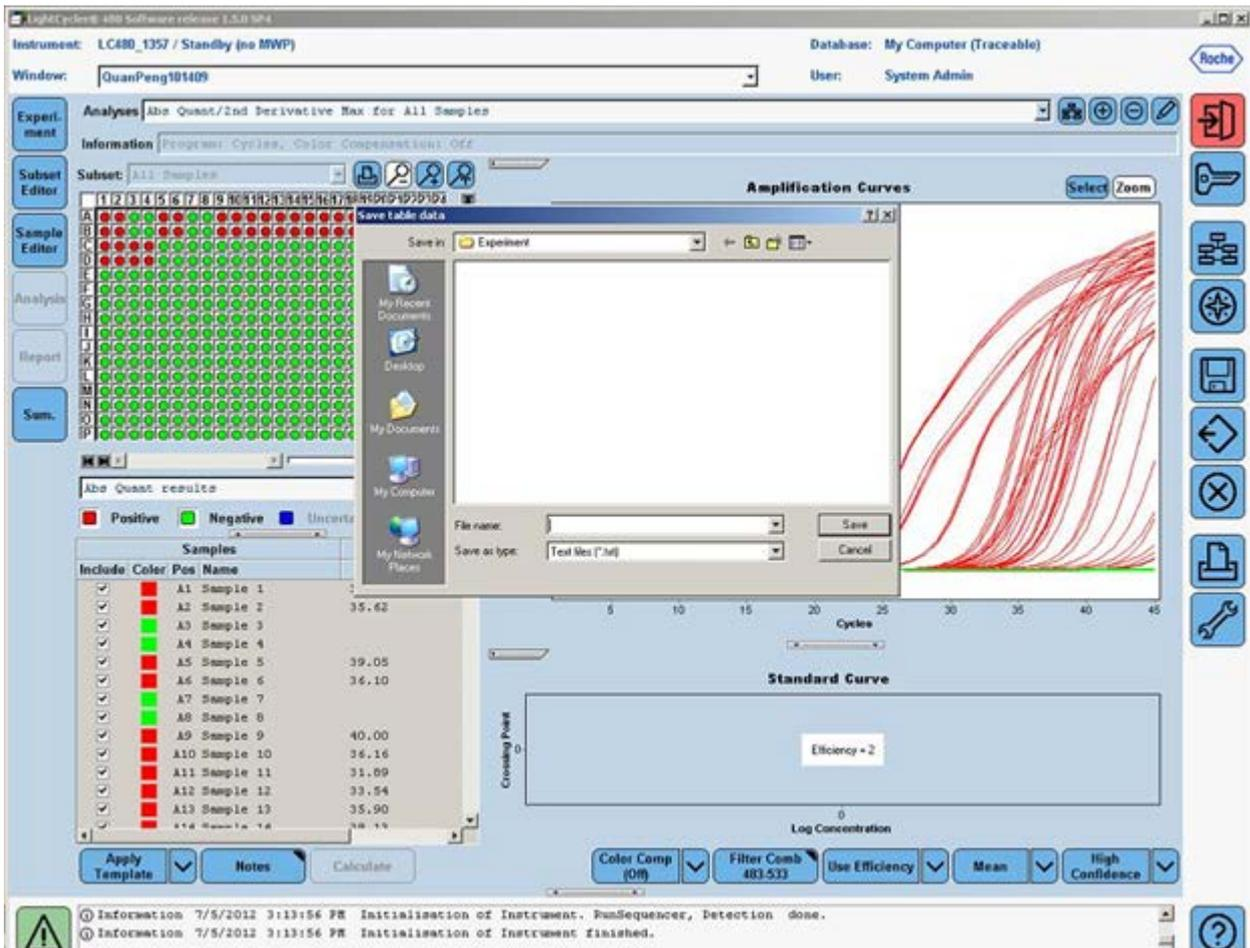

Figure 11. Exporting the Cp values.
- Once the Cp values are generated, move the mouse over to the "Samples" window and click to highlight the samples result table. Right click the table and select "Export" button to export the data. A "Save table data" dialog box will appear (Figure 11). Enter a filename to save the data as a text file. Then click the  button on the right panel to save the second derivative maximum analysis and the Cp values as part of the run file.